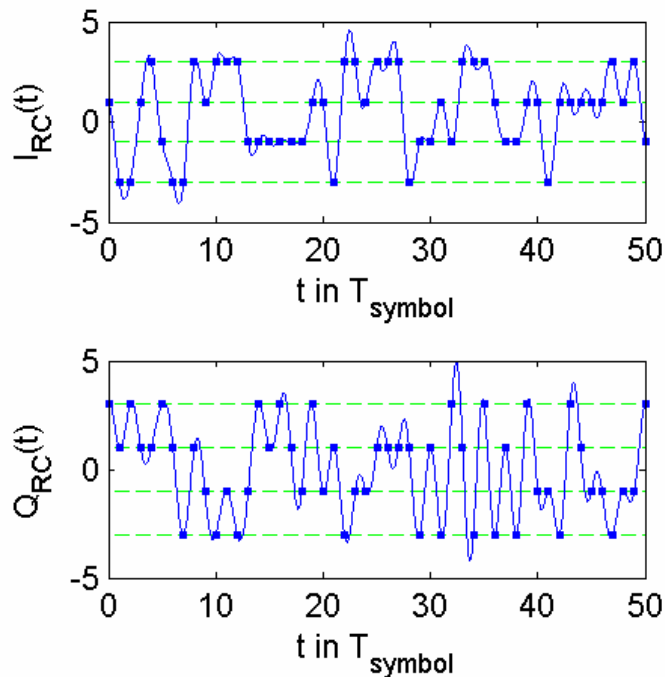

Fig. 2-48 Raised cosine filtered dirac signals $I_{RC}(t)$ and $Q_{RC}(t)$
We notice that the symbol instants (highlighted with squares) are not on the horizontal lines (possible symbol levels) anymore. This is due to the inter-symbol interference introduced by the root raised cosine TX filter. Contrary to the signal filtered with two root raised cosine filters (TX and RX) the one filtered with a single root raised cosine filter (TX) does not satisfy the condition for zero inter-symbol interference. Fig. 2-48 shows the signal obtained by filtering the dirac signals with two root raised cosine filters. The convolution of two root raised cosine filters is also called raised cosine filter and it results in an overall inter-symbol interference free system. We observe that all symbol instants (highlighted with squares) of $I_{RC}(t)$ and $Q_{RC}(t)$ have exactly the same levels as the signals $I_{dirac}(t)$ and $Q_{dirac}(t)$ in Fig. 2-45. Please note that this is only true for the signals $I_{RC}(t)$ and $Q_{RC}(t)$ if there is no noise present in the receiver. In the case of noise points will turn into clouds, that is what can be seen in the Constellation Diagram measurement \(modulation analysis\).